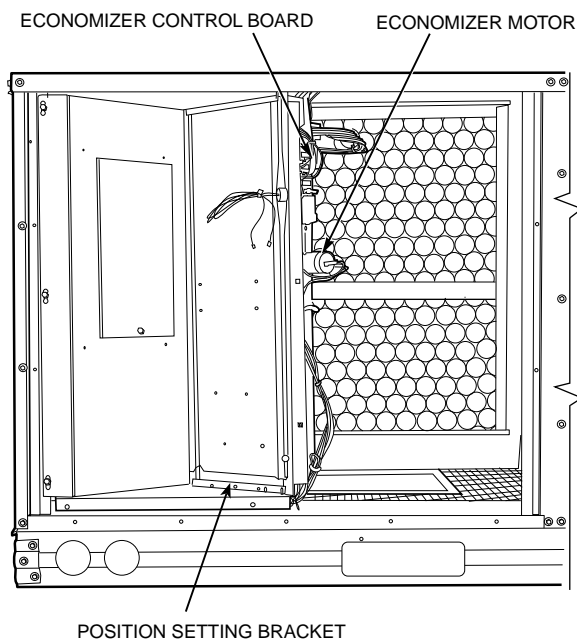

Fig. 22 — Horizontal Durablade Economizer Installation (90 Degree Rotation)
- a. Rotate the economizer 90 degrees until the economizer motor faces the condenser section (see Fig. 22).